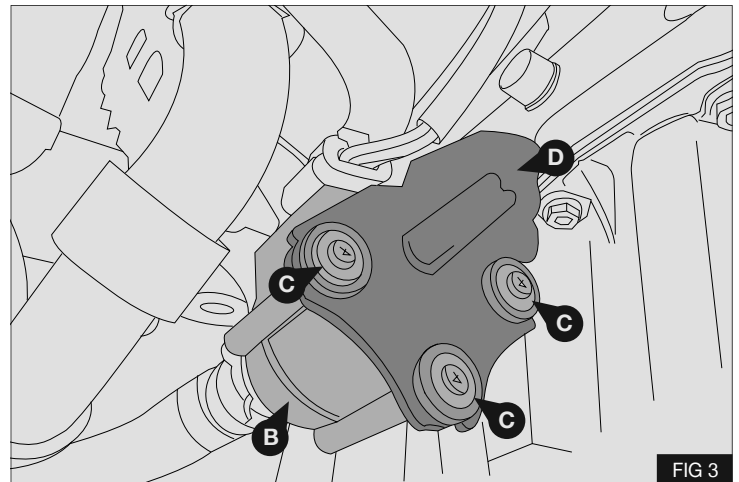

FIG 3
4. Disconnect the wiring from the electric water pump (B) located in front of the oil sump - Fig 3
5. Remove and retain the 3 x T10 screws (C) securing the water pump (B) to the bracket (D) - Fig 3